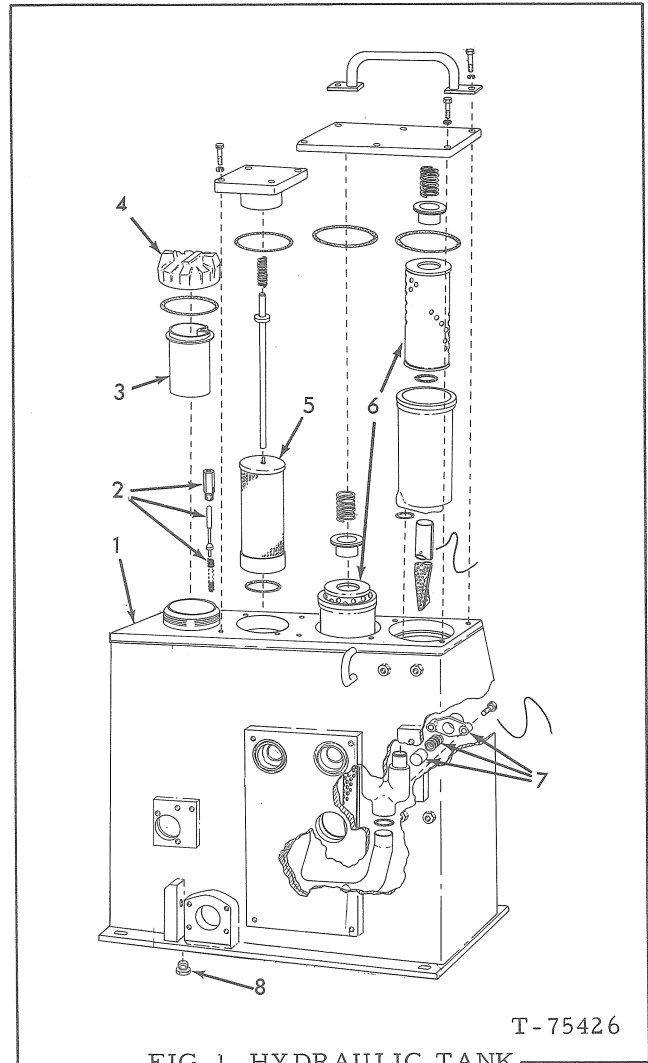

FIG. 1 HYDRAULIC TANK
The dozer hydraulic system consists of a hydraulic tank, Fig. 1 (1), containing two full flow filters (6), a by-pass valve (7) to protect the filters, a strainer (3) to prevent dirt from entering system while filling it, an air relief valve (2) to prevent oil from splashing when